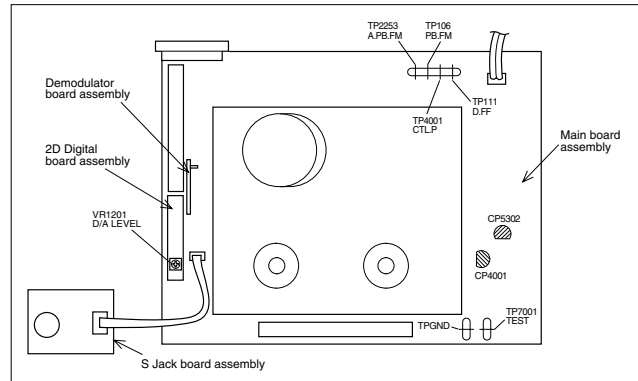

Fig. 1-4-1a
- (1) Refer to the disassembly procedure and perform the disassembly of the major parts before removing the Drum assembly.
- (2) Lower the cassette holder to prepare for the removal of the Mechanism assembly screws. (Refer to the “Procedures for lowering the Cassette holder assembly” of 1.3 Disassembly/assembly method.)
- (3) Remove the combined Mechanism and Main board assemblies.
- (4) Connect the wires and connectors of the major parts that have been removed in step (1). (Refer to Fig.1-4-1a.)
- (5) Place the combined Mechanism and Main board assemblies upside down.
- (6) Insert the power cord plug into the power outlet and then proceed with the diagnostics and servicing of the board assembly.